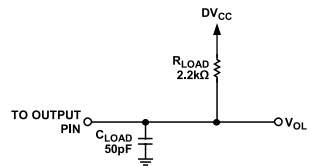

Figure 2. Load Circuit for Open Drain
- ⁴ This is measured with the load circuit shown in Figure 2.